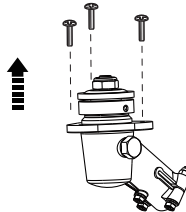

Fig. 4a
a). Loosen the three pre-assembled screws on the gear head by using the Hex key 4 mm (F3). (See fig.4a)